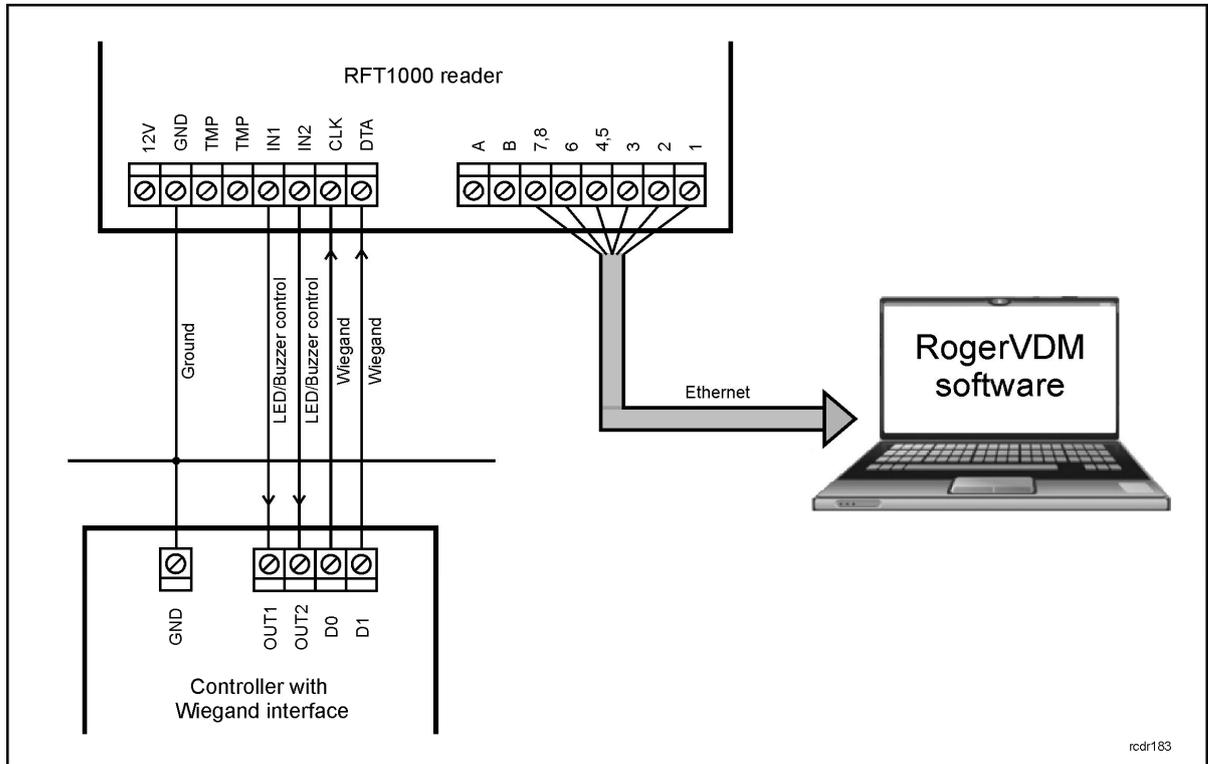
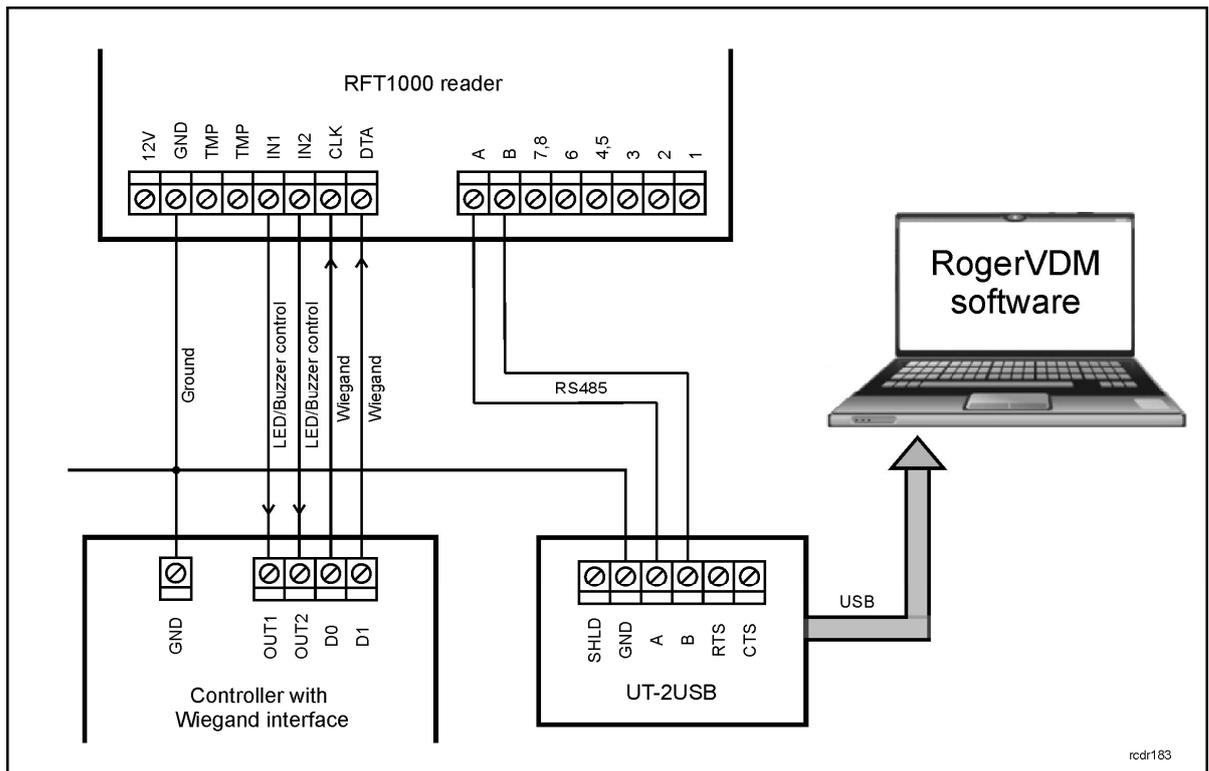

Fig. 2 Connection diagram for RFT1000 and master device (controller) - configuration through Ethernet port (recommended)
Fig. 3 Connection diagram for RFT1000 and master device (controller) - configuration through RS485 port
RFT1000 reader is equipped with three LED indicators on its front panel. These indicators are used for signalling current states of the reader. Particular LED indicators can be activated by means of reader’s inputs. In such case, master device by its outputs connected to RFT1000 inputs (see fig. 2 or 3) can activate indicators as needed. Additionally it is possible to configure behaviour of reader’s indicators in particular situations. More information on configuration of LED indicators is given in par. 4.3 Configuration of inputs and LED indicators
1. Connection of the reader to network through Ethernet port according to fig. 2. or through RS485 port according to fig. 3. By default, RFT1000 is configured for Ethernet communication.
3. Connection of the reader to master device (controller) by means of Wiegand interface according to fig. 2. Optionally, reader's inputs can be connected to master device outputs and configured.
RFT1000 reader can operate with all kinds of master devices if they are equipped with Wiegand interface. After proper connection in accordance with fig. 2, there must be executed configuration of connection both on RFT1000 side and master device side.
7). According to fig. 2, master device can control LED indicators and buzzer in the reader by means of input lines (IN1, IN2). Additionally it is also possible to switch Card Reader Mode by means of reader's input.